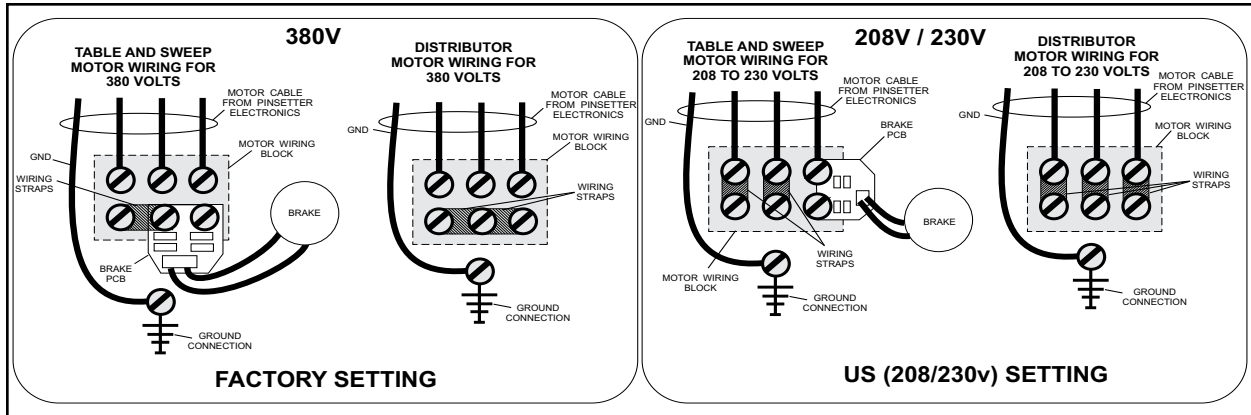

Figure 1
You should not experience any changes in motor operations, however the motors will now need to be configured for proper voltage, prior to use, by verifying that the wiring straps and Brake PCB (if applicable) are properly attached. Refer to *Figure 1*.
**IMPORTANT:** Motors are factory wired for European (380VAC) locations. It is important to ensure that the wiring straps inside the motor are in the correct position and the power cable is wired properly for the voltage you use for your pinsetters. Refer to Figure 1 for additional detail.